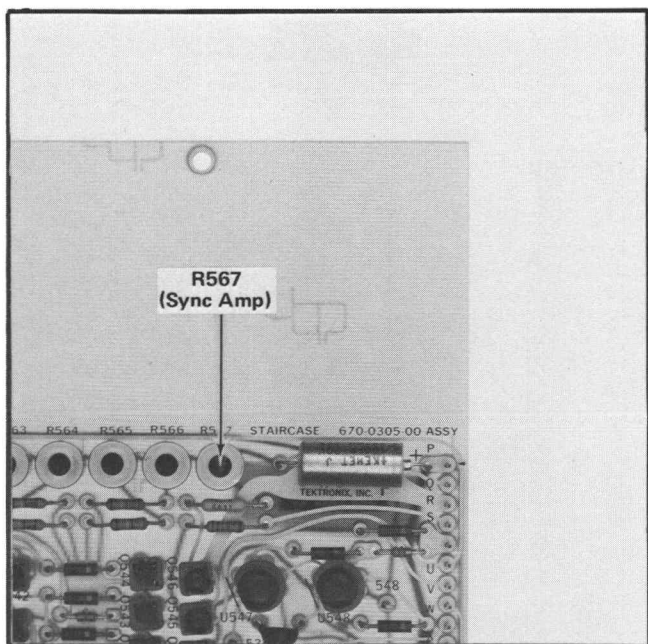

Fig. 5-9. Staircase board adjustment location.
g. ADJUST—Sync Amplitude control, R567, (see Fig. 5-9) until the sync tip just aligns with the blanking level.